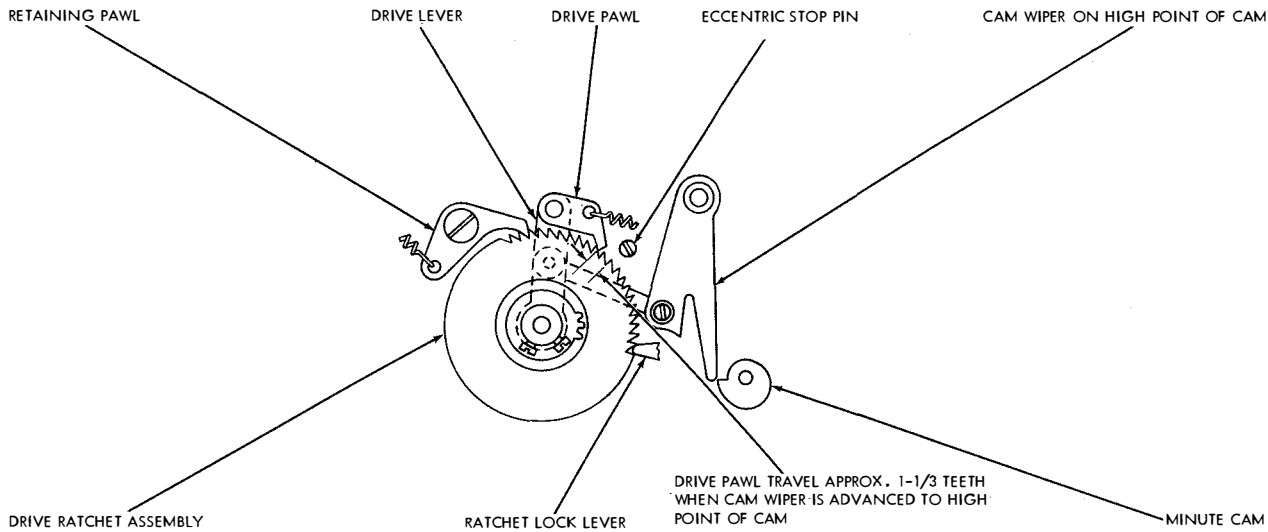

Figure 7-20. Minute Drive Assembly
(12) MINUTE DRIVE PAWL. (See figure 7-20.)—With the cam wiper on the high part of the minute advance cam, the drive pawl should travel approximately $1\frac{1}{3}$ teeth on the ratchet wheel. To adjust, form the lower extension of the cam wiper.
(13) DRIVE PAWL STOP PIN. (See figure 7-20.)—The ratchet pawl should feed far enough for the retaining pawl to drop into the ratchet tooth. To adjust, position the drive pawl eccentric stop pin. The figures on the typewheel can be aligned properly by loosening the setscrews in the drive ratchet and then moving the typewheel slightly to align the figures. Retighten the setscrews while holding the typewheel in position.